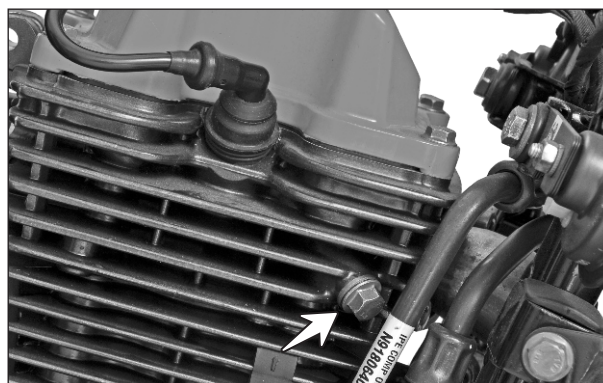

Fig. 4.19
- Slowly loosen the hexagonal flange bolt (M8x15 - 1 no.) along with the copper gasket and look for the flow of oil. (Fig. 4.19)